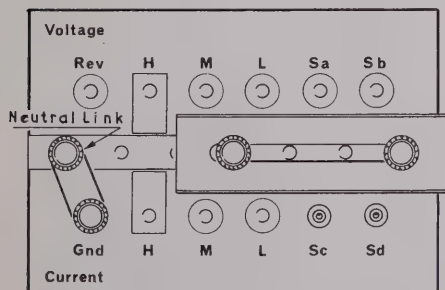

Fig. 1 Neutral Screen and Link arrangement
- (a) Small components connected directly to the bridge terminals. Ground and Neutral connected together (Fig. 1).
Measurements are then made in the normal manner, except that terminal H, M or L (see Figs. 1 and 4) will be grounded.